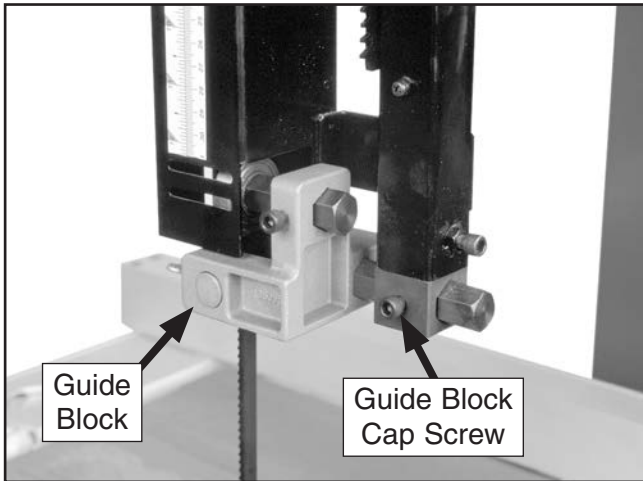

Figure 50. Back of upper blade guides.
- Loosen the guide block cap screw shown in **Figure 50**.